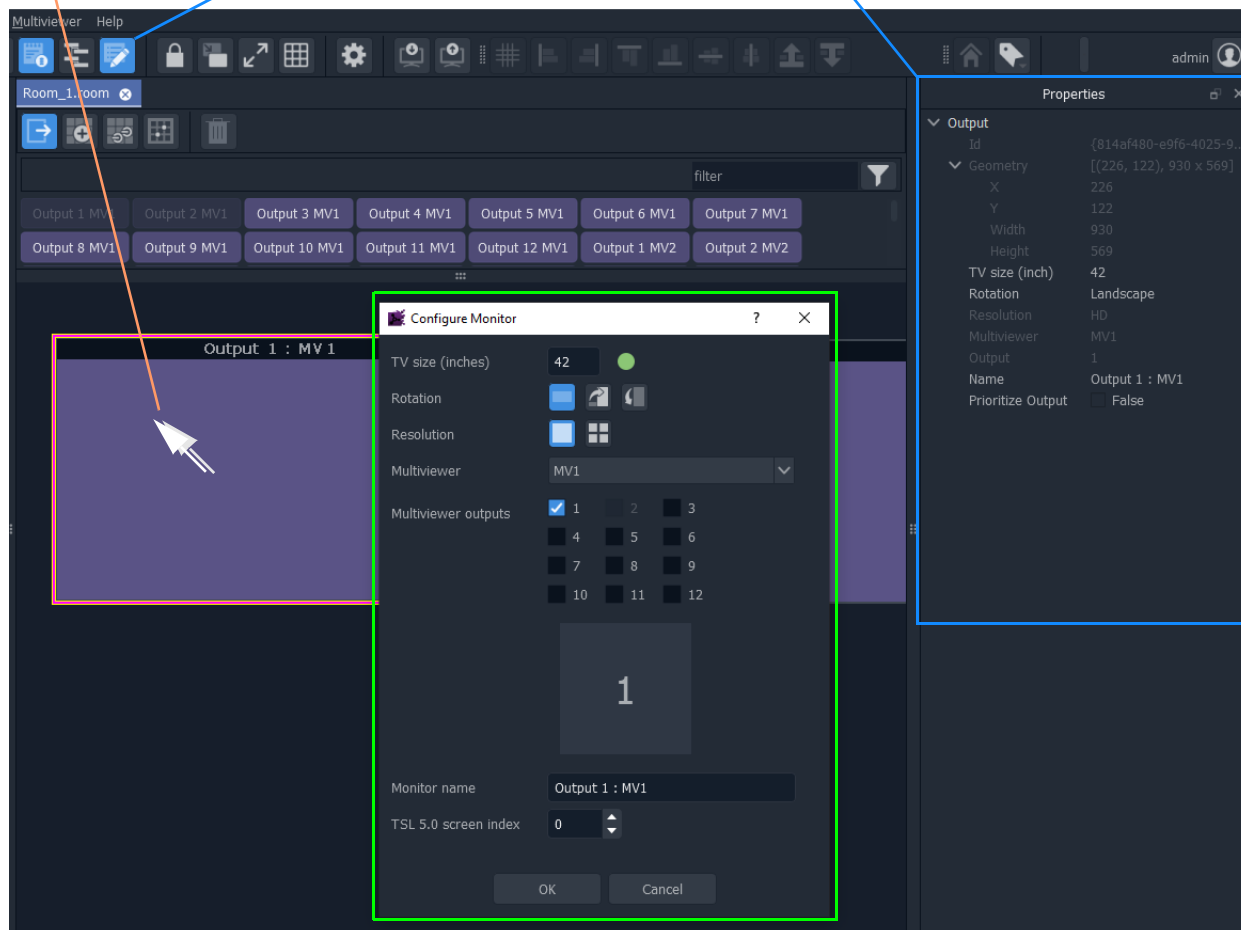

Fig. 14-20: Configure Monitor Dialog
The **Configure Monitor** dialog is shown (see Figure 14-20), where monitor properties can be changed.
- Select the 'Properties Window' button in the main tool bar. See Figure 14-20.)